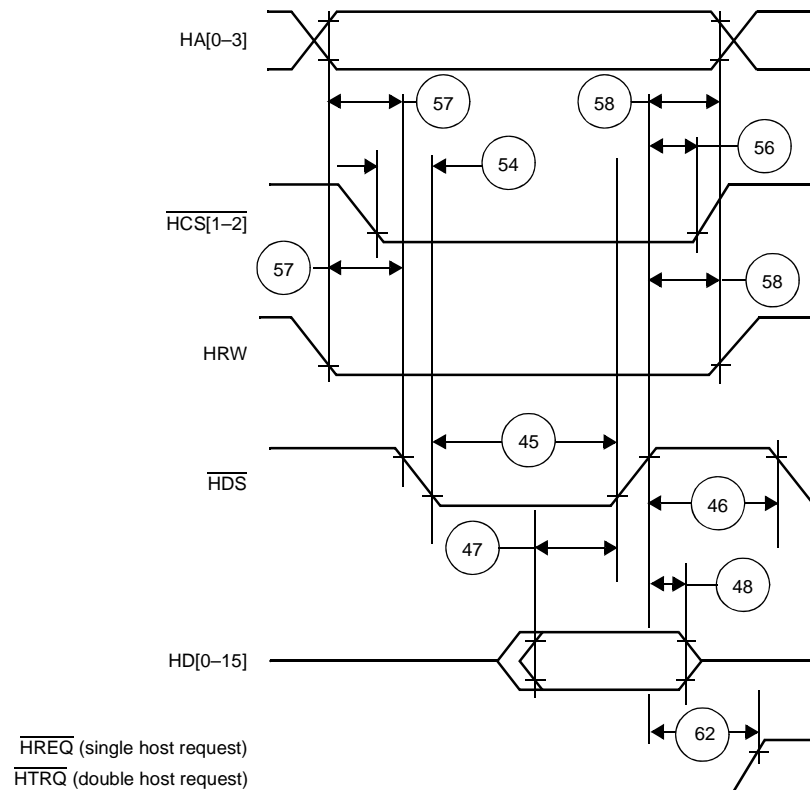

**Figure 14. Read Timing Diagram, Single Data Strobe**
**Figure 14** and **Figure 15** show HDI16 read signal timing. **Figure 16** and **Figure 17** show HDI16 write signal timing.